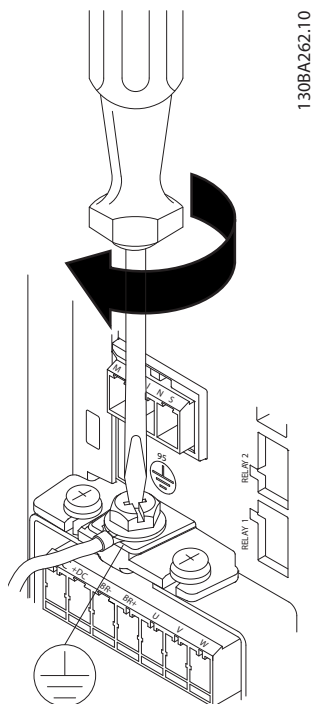

Figure 3.9 Mounting the Ground Cable
2. Mount the ground cable, as shown in Figure 3.9.